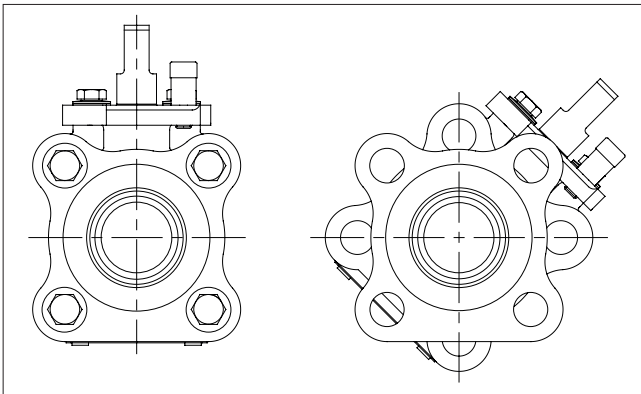
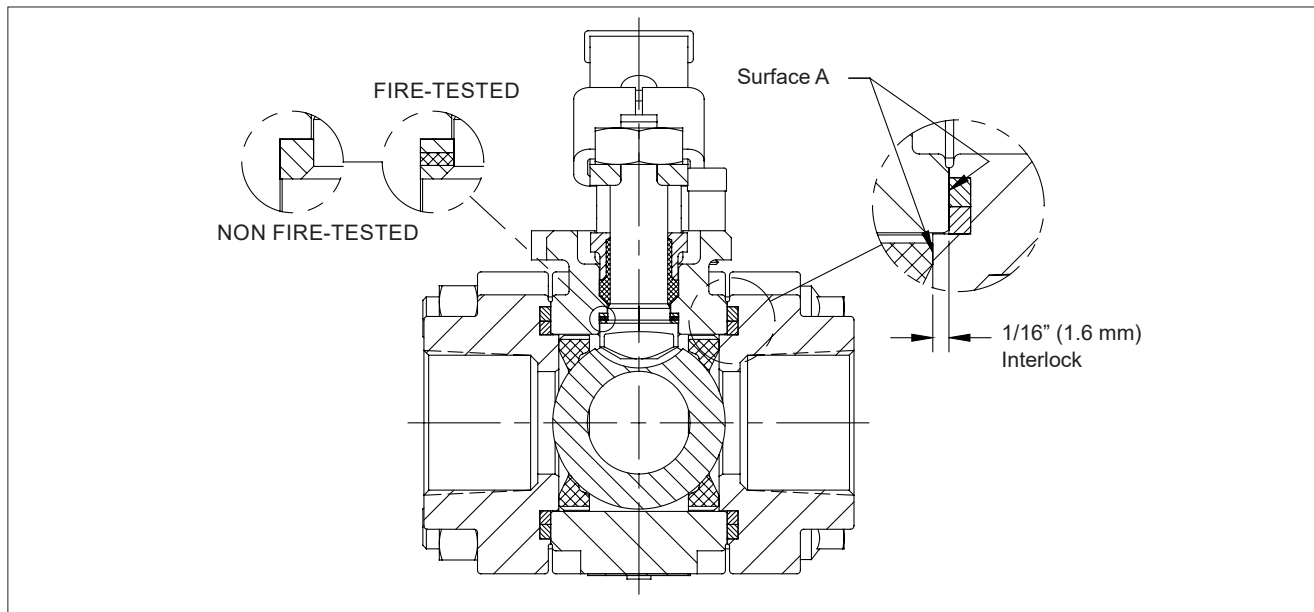
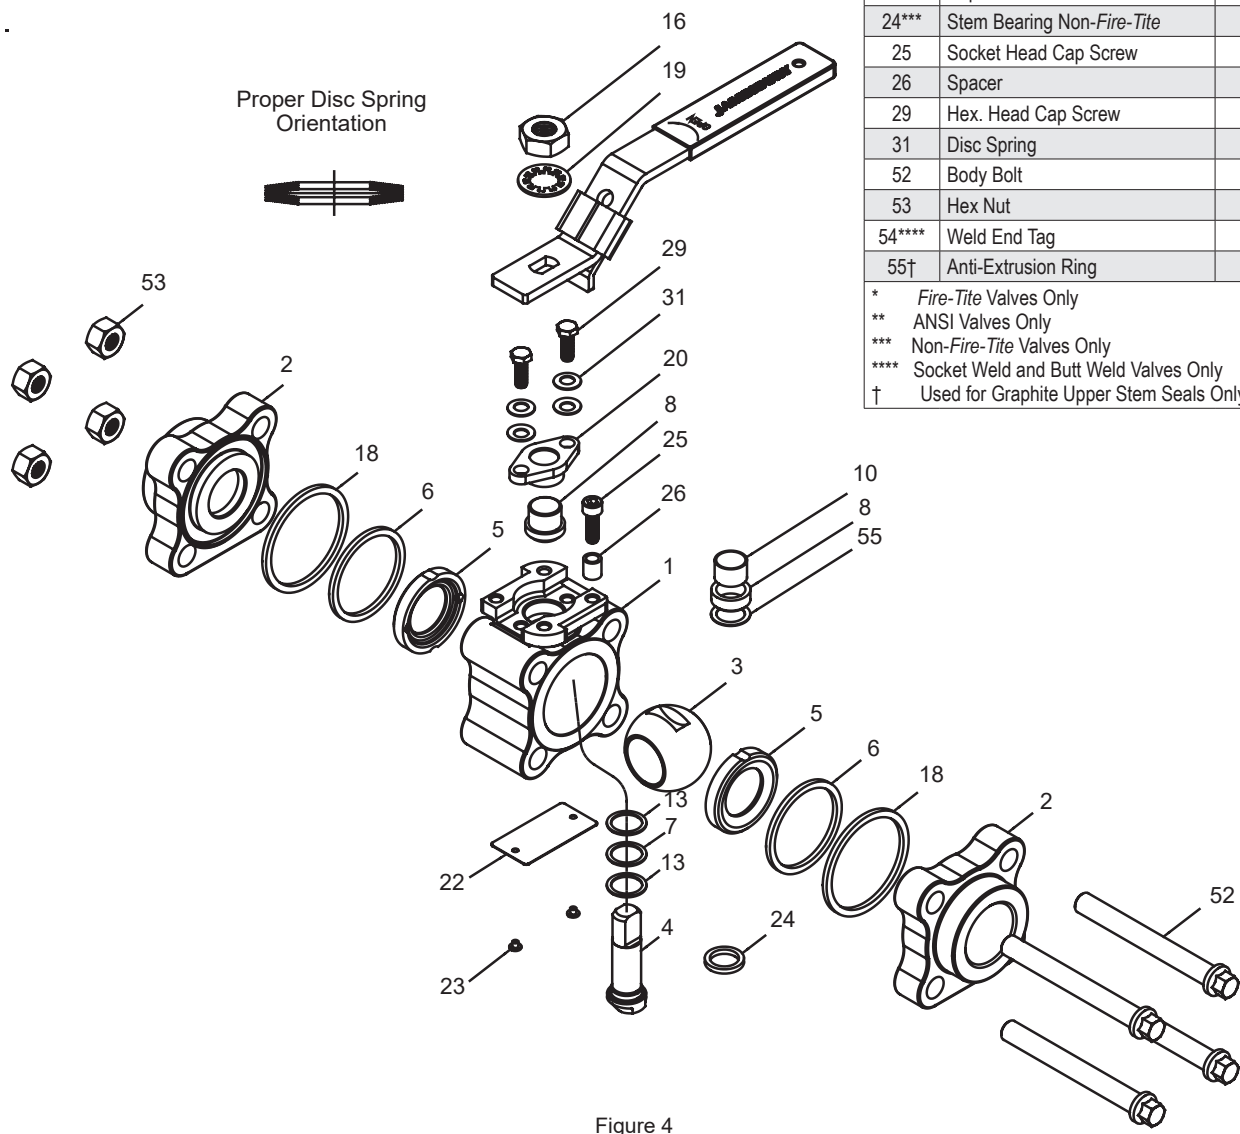

Figure 1.
Figure 3.
Figure 4
3. Remove the handle nut (16) and handle (17).
4. Loosen all four body bolts (52). Remove three from the valve. Leave the remaining bolt in place with the hex nut (53) backed off at least 1/4" (6.4 mm).
5. For positive alignment and ease of in-line assembly, each end cap is interlocked approximately 1/16" (1.6 mm) into the body as shown in **(Figure 3)**. To overcome this feature during in-line disassembly it is necessary to separate each cap at least 1/8" (3.2 mm) from the body. Sharply rap body and caps with a block of wood or plastic mallet to break loose body seal. Spread end caps and swing the body out of the line. If pipe does not allow simple spreading, remove the remaining body bolt and rotate center section per **(Figure 1)**. This will improve access to the end cap flange for ease of spreading. Swing the valve body (1) out from between the end cap (2). Be careful not to damage the sealing surfaces "A" **(see Figure 3)** at each end of the valve.
1. With the valve swung to the out-of-line position, insert from the inside of the body a stem bearing (13), a secondary stem seal (7), then another stem bearing (13) into the stem bore. For non-Fire-Tite valves use one stem bearing (24). See **(Figure 3)** and parts list **(Figure 4)**.
3. Holding the stem in place from the bottom, install the stem seal (8) and the compression plate (20). For valves with graphite stem seals (8), install upper stem bearing (10) and anti-extrusion ring (55) prior to installing the stem seal (8).
4. Place the disc springs (31) on top of the compression plate over the bolt holes and insert the hex. head cap screws (29) and bring them down hand tight with the disc springs. **NOTE:** See **(Figure 4)** for proper disc spring orientation.
5. While pressing the stem upward from inside the body, torque the hex head cap screws (29) applying the torque shown in **(Table 2)**. Apply torque evenly alternating between the two hex head cap screws so that compression plate will be parallel with the valve body bonnet.
6. Align the stem blade with the ball slot. Insert the ball (3) and then rotate the stem (4) so that the ball is in the closed position.
7. Working at either end of the body (1), place a seat (5) into the body. Fit it snugly against the closed ball. **NOTE:** The sealing surface of the seat is toward the ball **(see Figure 4)**.
8. Place an inner body seal (6) and an outer body seal (18) into the machined sealing groove of the body cap (2) **(see Figure 3)**. **NOTE:** On those valves with metal seats (DH seat/seal code), there is a one piece body seal (6). Be certain that the groove and seal are clean.
13. Bolt the valve together with lubricated body bolts (52) and hex. nuts (53). Tighten these bolts evenly and alternately. **(See Table 1 for the torques.)**
14. Attach the handle (17) and secure it with the handle nut (16) applying the torque shown in **(Table 3)**.
- From **Figure 4**, the ballooned part number, part name and quantity required